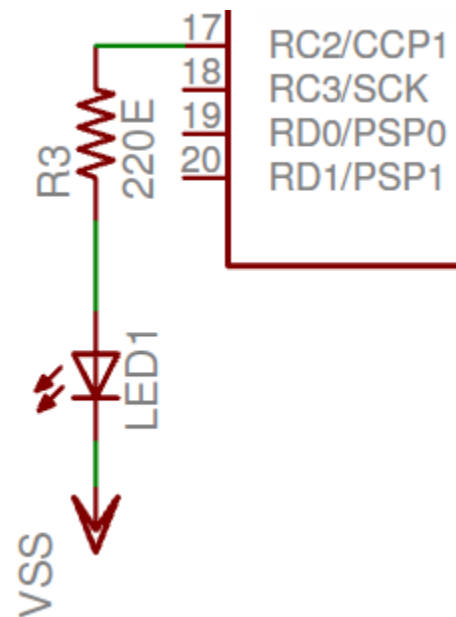

Figure 1
- Setup your PIC hardware. Although this guide is not about hardware, we feel we can't leave it out all together. To blink a led, you need a led connected, like shown in figure 1. Appendix A gives you the full schematics diagram of our evaluation hardware. Please look at www.justanotherlanguage.org if you want more details on hardware or other blink-a-led related issues.